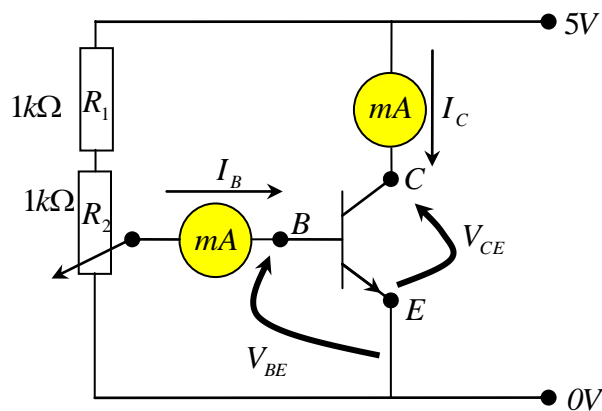

Figure 3.
- Assemble the circuit as shown in Figure 3.